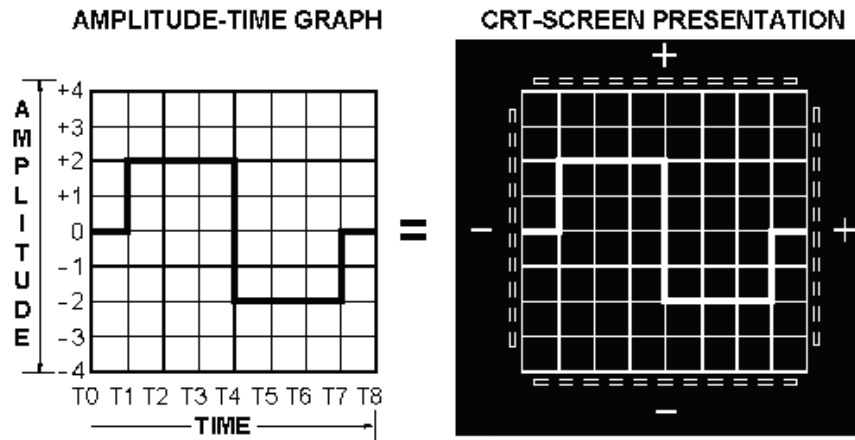

Figure 6-10.—Amplitude versus time.
**VERTICAL-DEFLECTION PLATES.**—We will use figure 6-10 to explain the action of the vertical-deflection plates in signal amplitude measurements. As this discussion begins, remember that vertical-deflection plates are used to show amplitude of a signal, and horizontal-deflection plates are used to show time and/or frequency relationships.
A GRATICULE was used in our previous discussion in figure 6-10. It is simply a calibrated scale (made of clear plastic) of amplitude versus time that is placed on the face of the CRT.